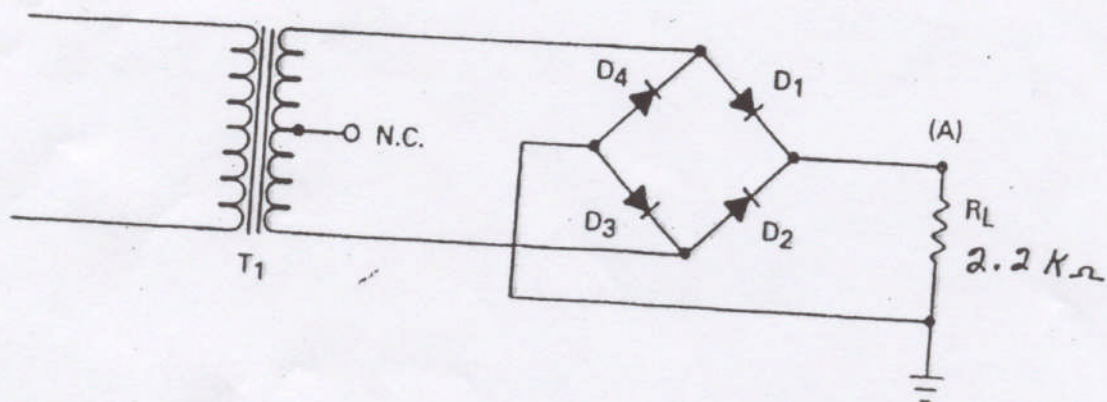

Figure 5
6. Construct the full-wave circuit shown in fig. 5. Using four diodes.